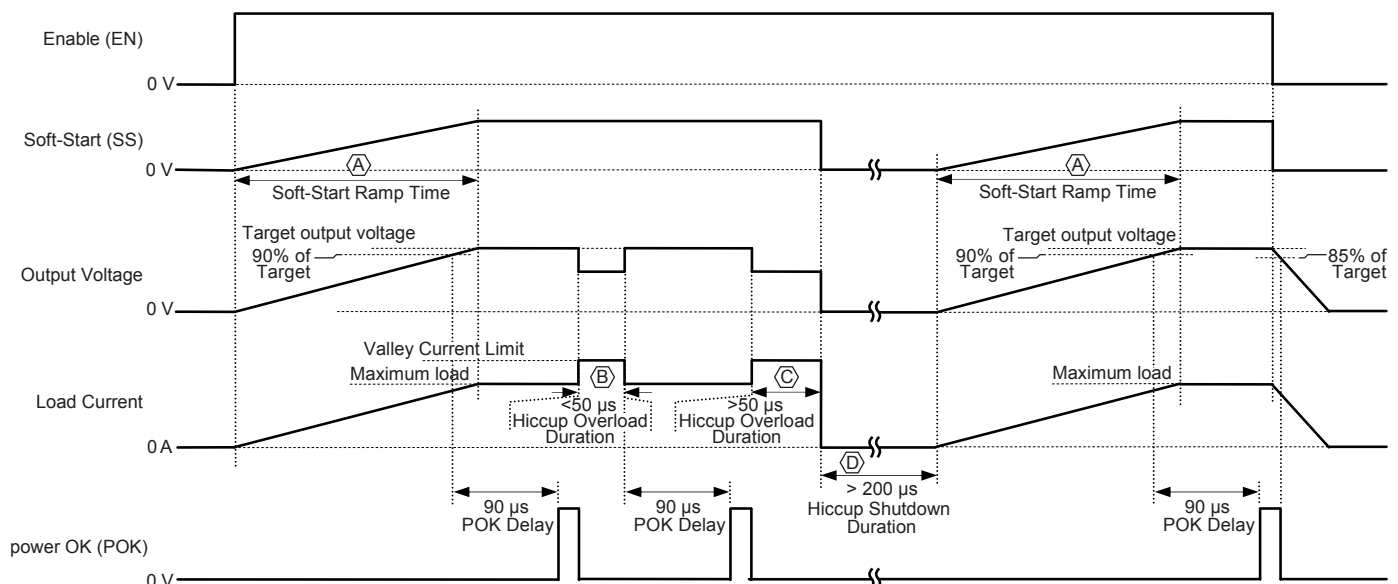

Figure 1. Operation of the soft-start function
The soft-start routine controls the rate of rise of the reference voltage, which in turn controls the FB pin, and thereby the output voltage ( $V_{OUT}$ ) (see figure 1). This function minimizes the amount of inrush current drawn from the input voltage ( $V_{IN}$ ) and potential voltage overshoot on the output rail ( $V_{OUT}$ ).
A soft-start routine is initiated when the enable pin (EN) is high, no overvoltage exists on the output, the thermal protection circuitry is not activated, and  $V_{IN}$  is above the undervoltage threshold. Immediately after EN goes high, the soft-start capacitor is charged via an internal 10  $\mu$ A source and PWM switching action occurs. During the *Soft-Start Ramp Time* (see A in figure 1), the reference is ramped from 0 up to 0.6 V, and the output voltage ( $V_{OUT}$ ) tracks the reference voltage. The POK flag is held low until the output voltage reaches 90% (typical) of the target voltage and a delay of 90  $\mu$ s (typical) occurs.
drops below 85% (typical) of the target voltage, the POK flag goes low. If the overload occurs for shorter than the *Hiccup Overload Duration* ( $<50 \mu$ s; B in figure 1), the output will automatically recover to the target level. If the overload occurs for longer than the *Hiccup Overload Duration* ( $>50 \mu$ s; C in figure 1), the regulator will shut down, the soft-start capacitor will be discharged, and (assuming no other fault conditions exist and the enable pin is still high) the regulator will be delayed by the *Hiccup Shutdown Duration* (D in figure 1).